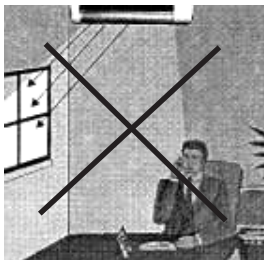

Fig. 3: Correct positioning of the radiating element
- ▶ Note the position of the radiating element. The integrated thermostat should not be affected by ambient influences such as sunshine or wind drafts, if possible (see Fig. 3).